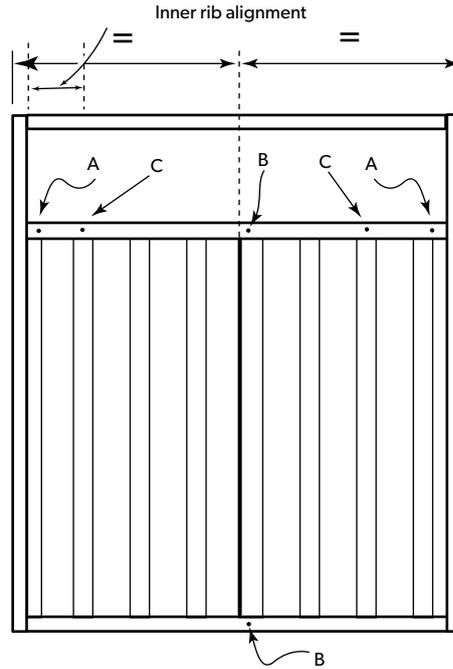

FIGURE 21.5:
12. If your gate includes a 'PLUS Option' (lattice or slats), insert it into the top rail. Swing the bottom of the lattice/slats in and secure it to the lower top rail using 3 hex. head screws #10-16x16 for standard width gates, or 3 for extra wide gates. Secure it also to the top rail: 2 screws for standard width gates, and 3 screws for extra wide gates (Figure 21.5).